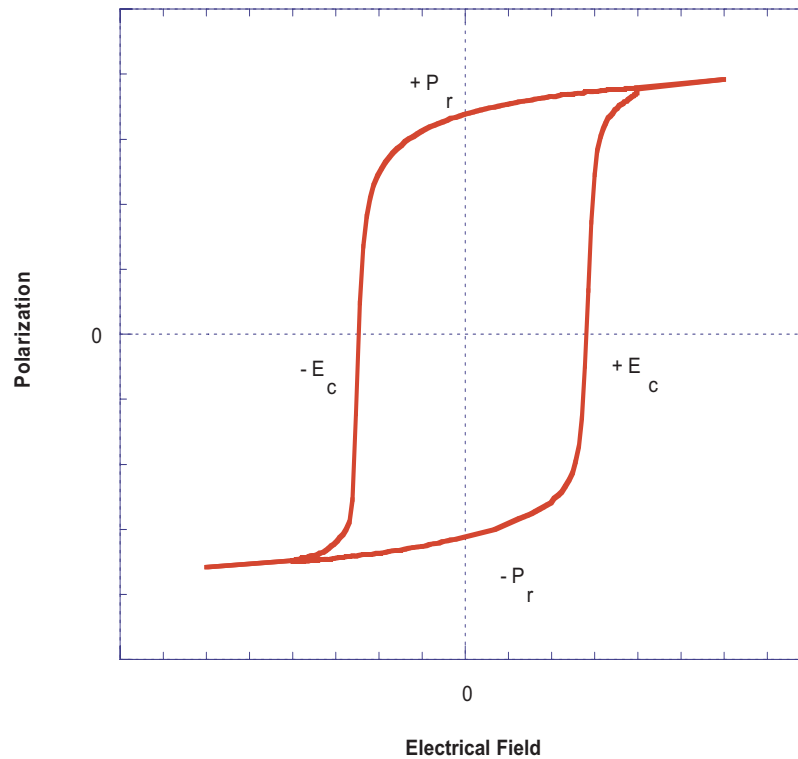
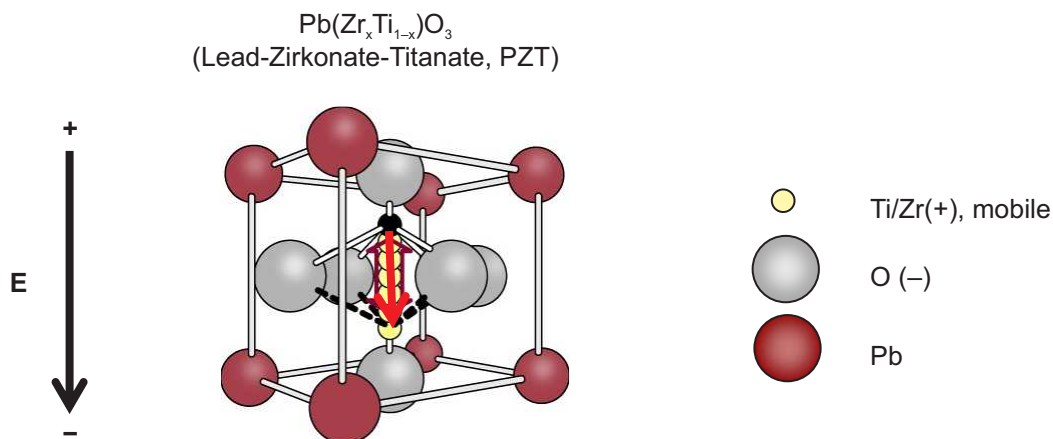

Figure 1. Polarization Hysteresis Loop
Figure 2. Lead-Zirconate-Titanate Structure
The term results from the hysteresis loop (shown in Figure 1) being similar to the magnetic hysteresis loop of iron (Fe). In contrast to the magnetic hysteresis loop, the one in FRAM results from the electrical dipole formed by zirconium (Zr) and oxygen (O) atoms in the ceramic lead-zirconate-titanate crystal (PZT) used to implement FRAM as shown in Figure 2.
Applying an electrical field (E) can polarize the material by "moving" the Zi atom in the structure. But to move the Zi atom from one side (here from the upper) to the other side (here the lower) of the O atoms, it must cross the barrier formed by the O atoms. So, with increasing field strength, the Zi atom moves gradually closer to the O atoms before – at a certain field strength – it "suddenly" flips to the other side. If a field is then applied with opposite direction, again the Zi atom would just gradually change its position before flipping to the other side. This will happen at the same field strength as before, but with an opposite sign. This behavior results in the electrical field versus polarization hysteresis loop shown in Figure 1.